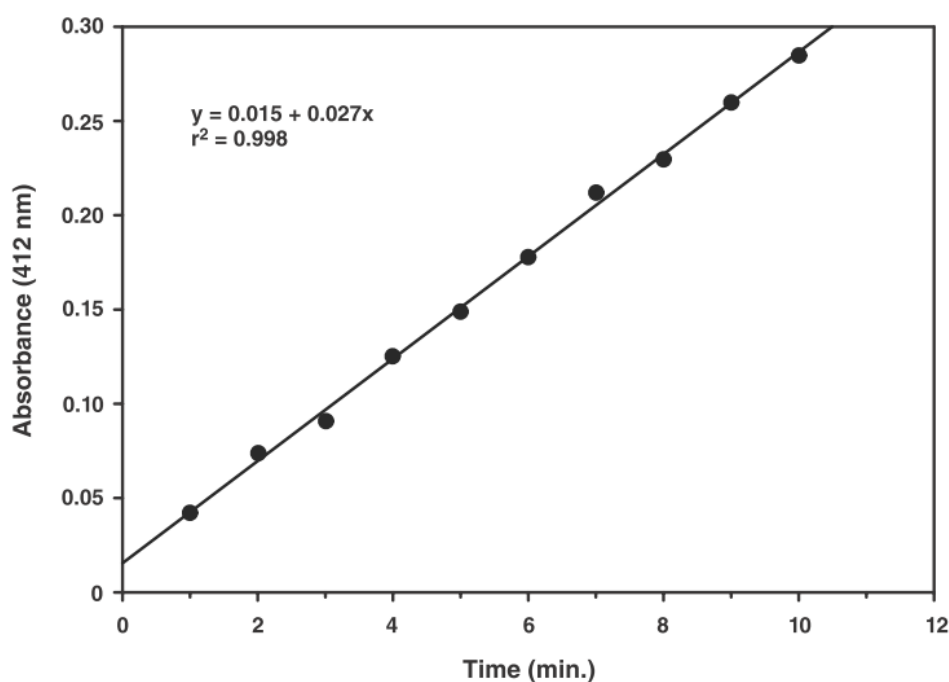

Figure 1. Assay of human recombinant PAF-AH
- Plotting the average values as a function of time to obtain the slope (rate) of the linear portion of the curve (a graph is shown using human recombinant PAF-AH (see Figure 1).